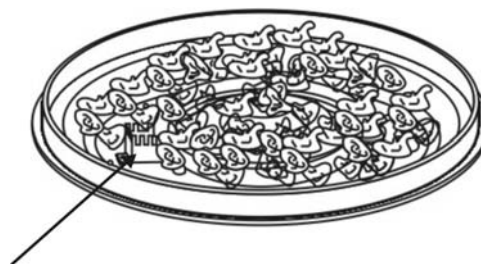

Figure 5
3. Remove cardboard cover from the ignition well as shown in Figure 5. Remove any lava rocks or fire ice on top of ignition well.